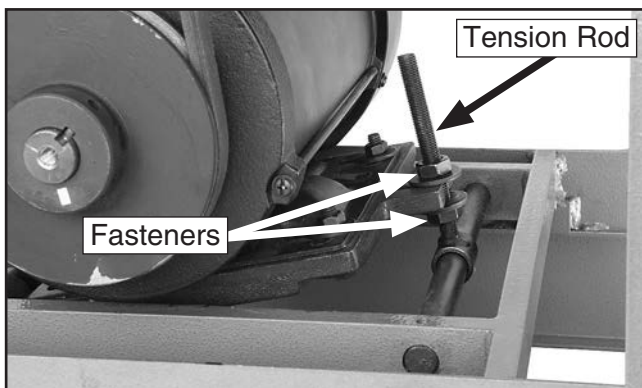

Figure 67. Fasteners needed to be loosened for V-belt replacement.
3. Using a 17mm wrench, loosen the fasteners on the tension rod shown in **Figure 67**.